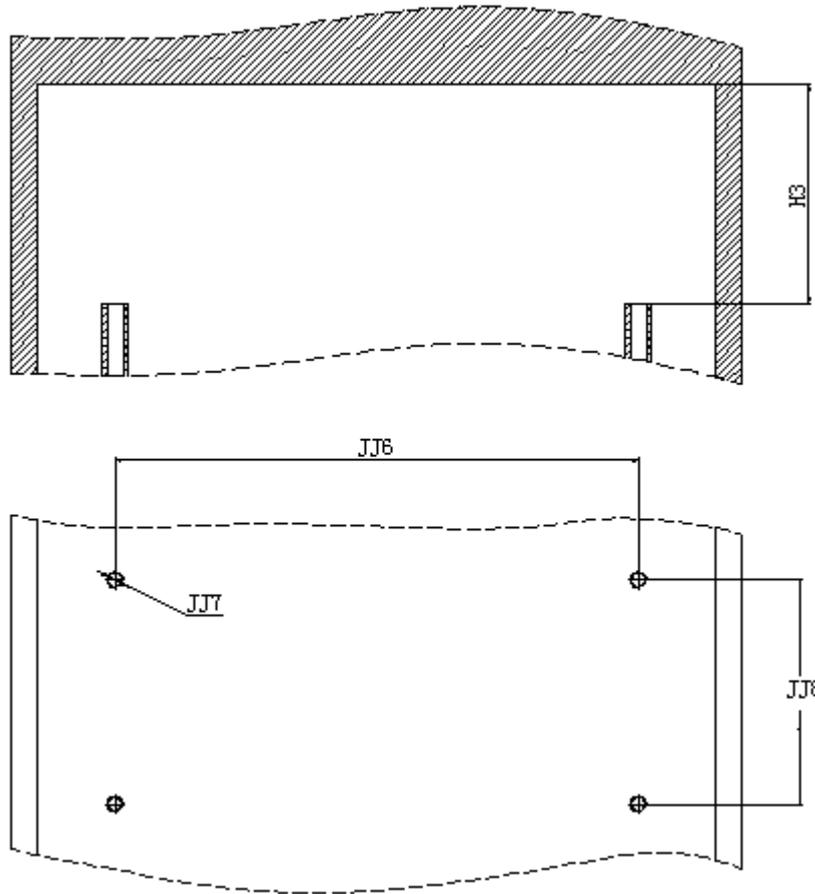

Figure 3 Mounting holes on the Luminaire to install control gear
1.2.2 The mounting dimensions of luminaire to fit control gear are shown in Figure 3 and table 3.
NOTE: Figure 3 and Table 3 show mounting dimensions to install control gear.